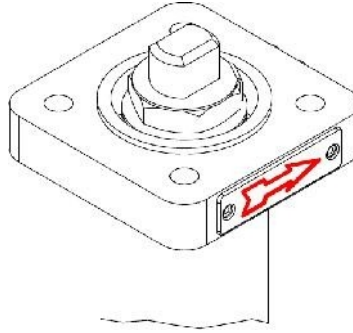

Figure 1. Arrow plate – Doesn't always indicates the direction of the flow
**2.1.1.** Microfinish cryogenic ball valves are unidirectional; valve installation shall be in the direction indicated by the **arrow** mark attached to the body and bonnet (Refer Figure1). The arrow indicates the High pressure (HP) side, at its tail, and the low pressure (LP) side, at the arrow head. The arrow direction does not always indicate the normal direction of cryogen flow; on the contrary, in most applications the valve should be installed with the arrow pointing in the opposite to the normal direction of cryogen flow. To clarify this issue, the high pressure side should be specified when the flow stops and the valve is in its closed position; **Although it may seem trivial, Microfinish has found this to be a very common error in industry which causes double the work, a waste of raw materials, and even a safety concern.**